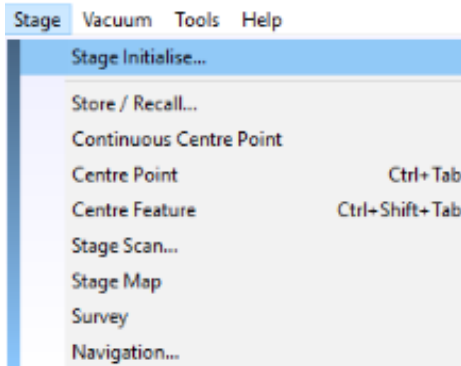
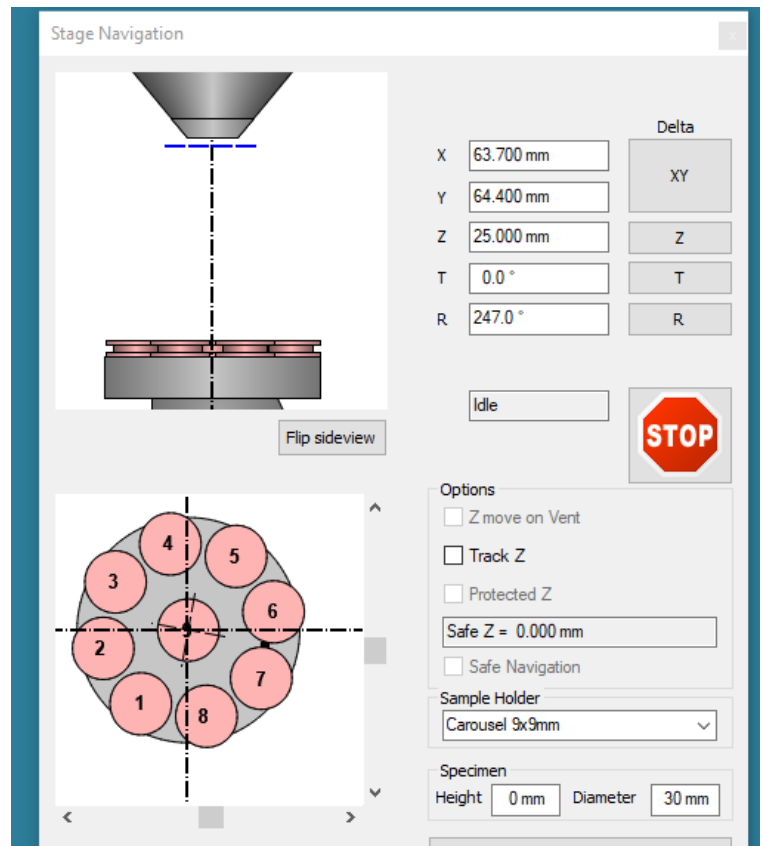

Figure 8
Figure 9
- Go to **Stage** → **Stage initialization (Figure 8)** and observe the change in stage navigation window (**Figure 9**).
- Initialize stage again (Figure 8)